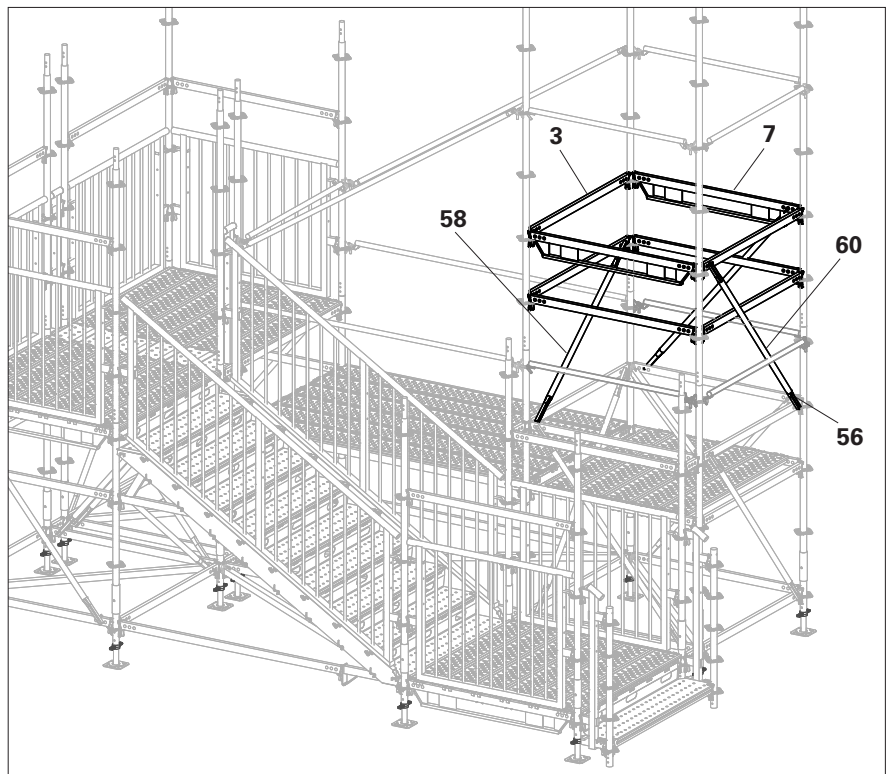

Fig. B3.03
7. Secure all Ledger Braces UBL-2 with Safety Washers UBL PEW (**56**) to prevent unauthorised removal. See the section System components, Section "Safety Washer UBL PEW" on page 23. (Fig. B3.03)